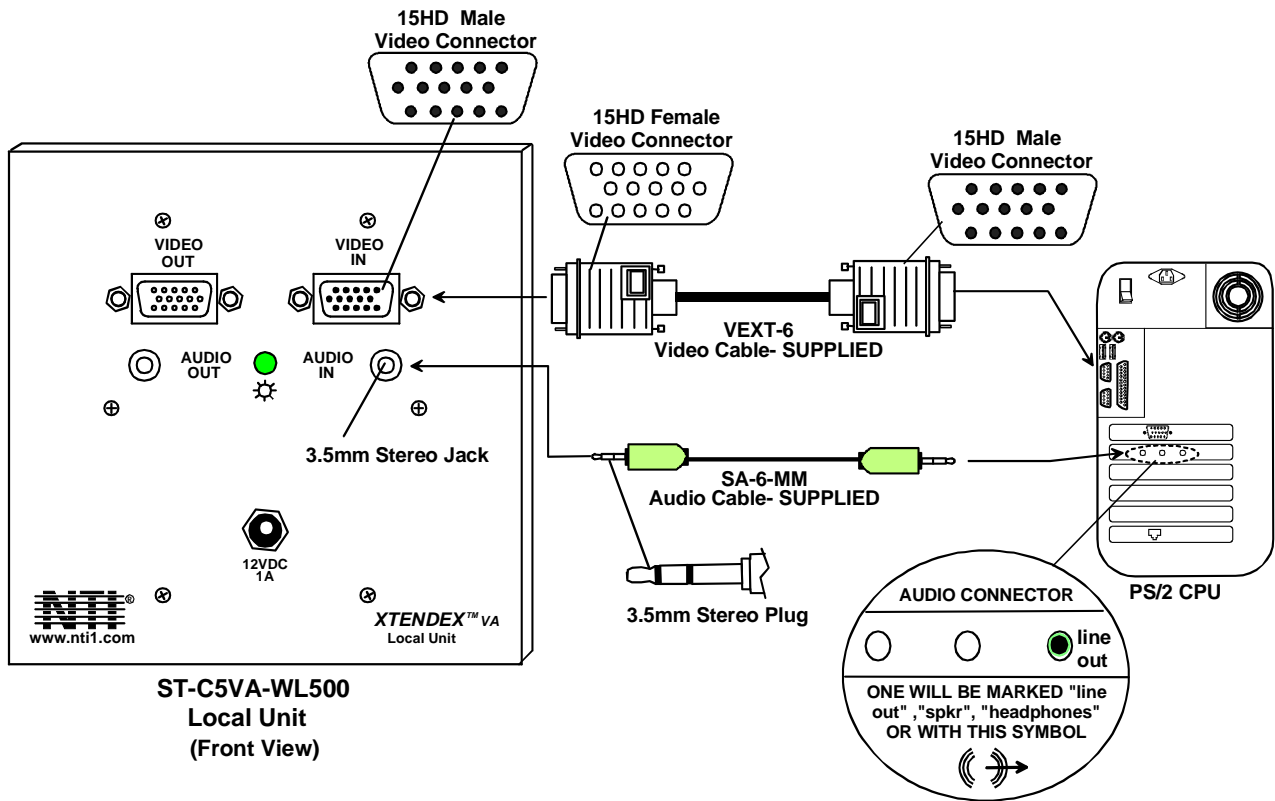

Figure 2- Connect the Local Unit to the CPU
1. Connect the VEXT-6 video cable (provided) to the male 15HD connector on the Local Unit labeled "VIDEO IN". Connect the other end of the cable to the video port on the CPU (see Fig. 2).
2. Connect the SA-6-MM audio cable (provided) between the connector on the Local Unit labeled "AUDIO IN" and the audio output jack on the CPU marked "line out", "spkr", or "headphones" (see Fig. 2).